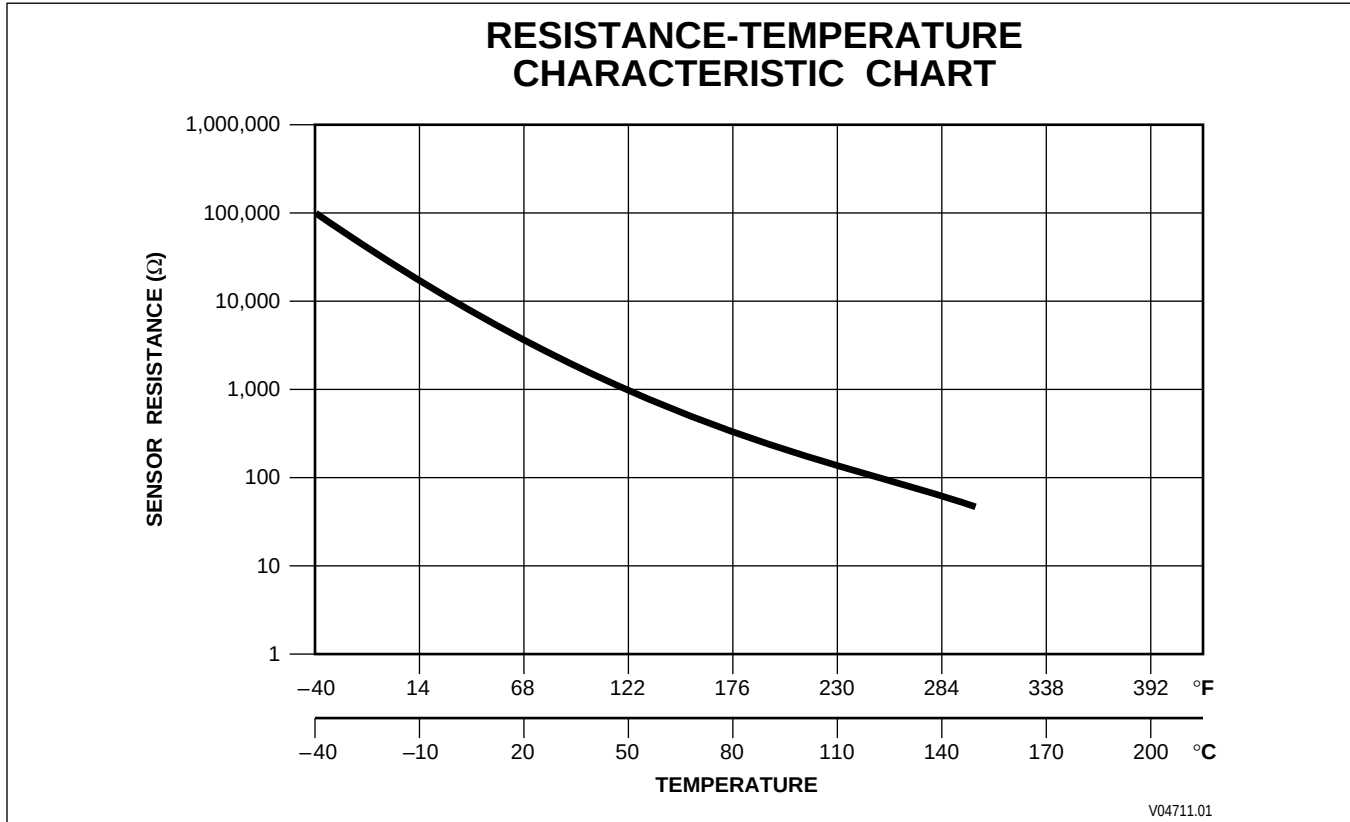

Figure 5-6. Temperature Sensor Chart
2. If the fluid is not hot when the code is produced, remove the transmission "T" harness connector at the ECU and the transmission. Check the fluid temperature sensor wiring for opens, shorts, and shorts-to-ground. Compare the resistance readings of the sensor and the actual temperature shown on the gauge with the chart information in Figure 5-6. If wiring problems or a great difference between temperature and resistance compared with the chart are found, remove the lockup valve body cover and replace the temperature sensor which is part of the internal lockup harness (refer to the Service Manual for the transmission being checked). If wiring problems are found, repair or replace as necessary.